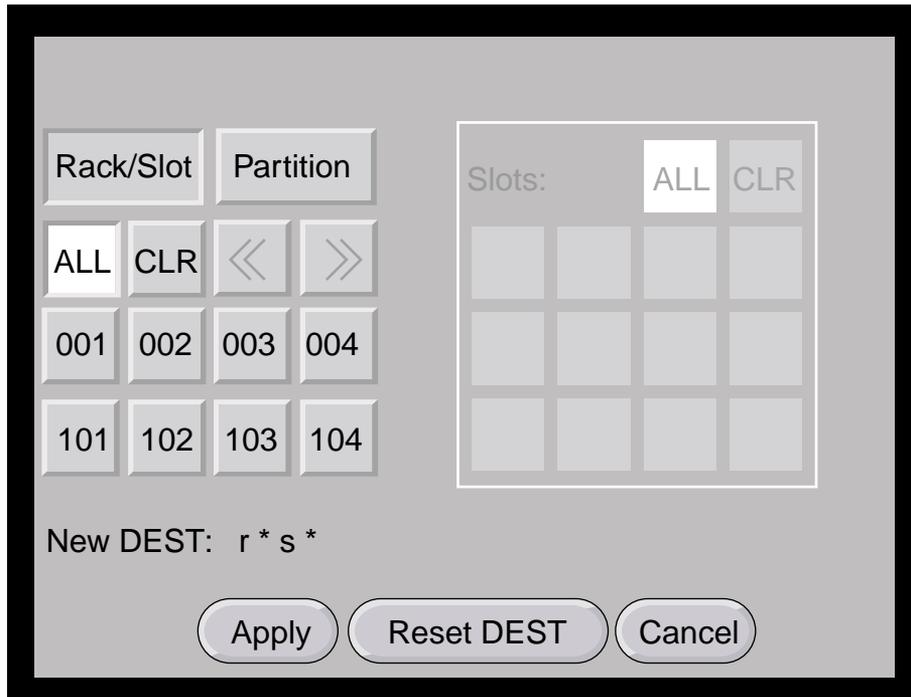

Figure 4-7 Destination Selection Window
1. Select the **DEST** button to select the bricks or partition you want to power on. The destination selection window, shown in Figure 4-7, appears.